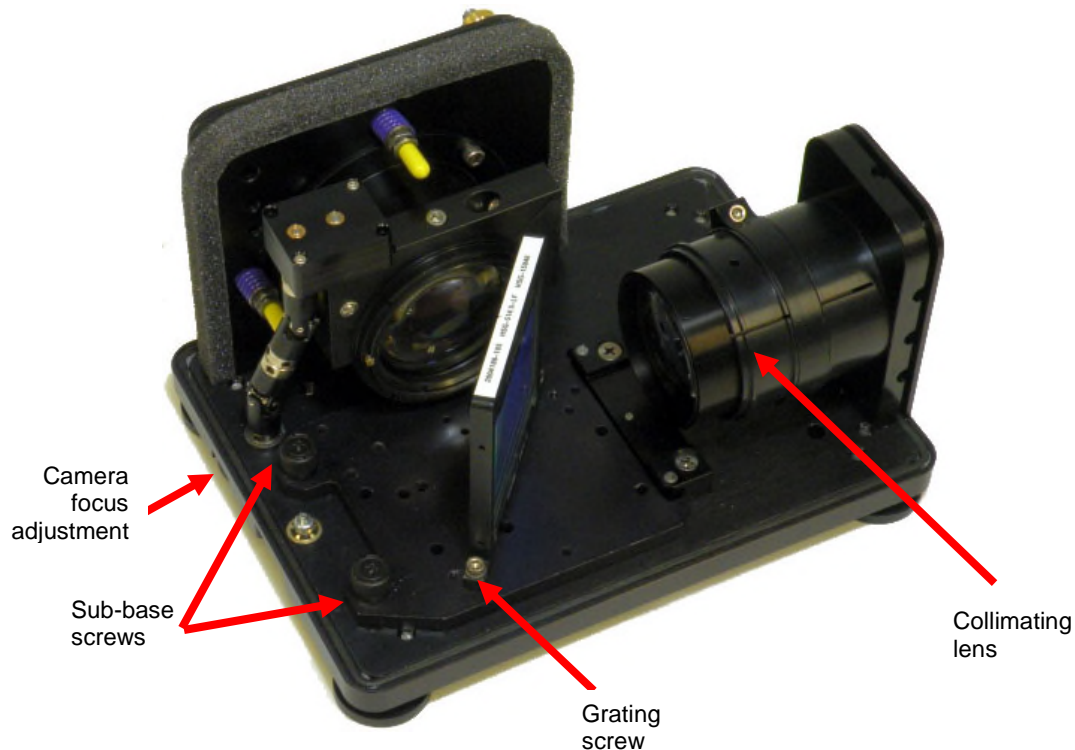

Figure 4-4. Installing a VPH grating.
- 2 Being careful not to touch the surface of the grating, grasp the grating at the top of its mounting frame with one hand and by the sub-base near the screws (Figure 4-4) with the other hand.
- 3 Lower the entire assembly into position as shown in Figure 4-4.